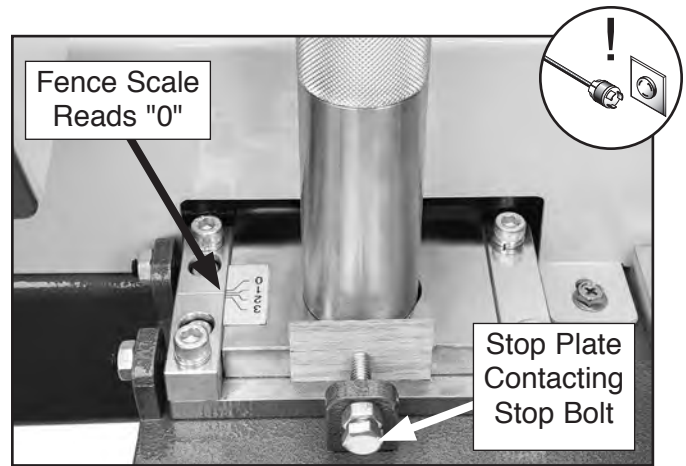

Figure 78. Checking infeed fence stop calibration.
2. Loosen infeed fence lock lever, rotate knurled cylinder clockwise until stop plate contacts stop bolt, then retighten lock lever (see **Figure 78**).
3. Check fence scale (see **Figure 78**).